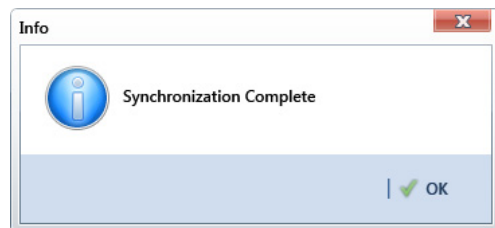

Figure 17-10. Synchronization Complete
- 2 Click **OK** when the message *Synchronization Complete* displays to complete the process (Figure 17-10).